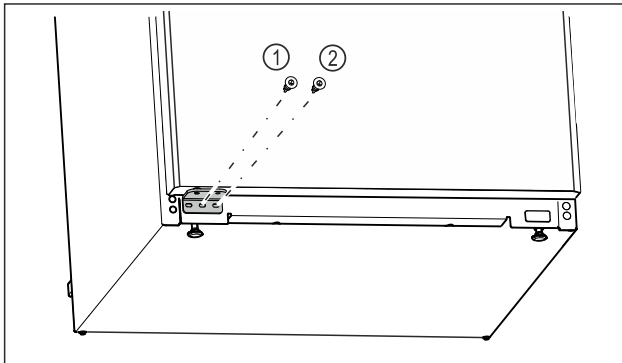

Fig. 24
- Tighten the middle screw of the swap bearing block Fig. 24 (1) with a Torx 20 screwdriver.
- Tighten the inner screw of the swap bearing block Fig. 24 (2) with a Torx 20 screwdriver.